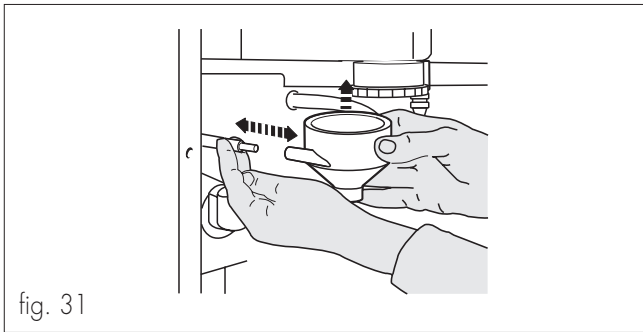

fig. 31
- Remove the powder funnel together with the funnel cover, making sure not to damage the gaskets at both ends. Separate them from the underlying part extracting also the nozzle with silicon tube (fig. 31).